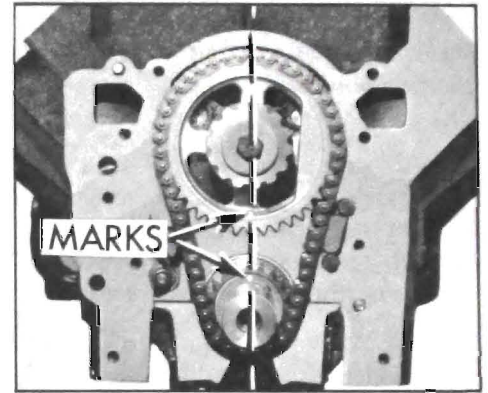

Figure 2-39—Timing Chain and Sprockets Properly Installed - V-6 Shown
bolt and washer in end of crankshaft. Turn crankshaft so sprockets are positioned as shown in Figure 2-39. Doing so will make it easier to reinstall parts. Remove harmonic balancer bolt and washer using a sharp rap on the wrench handle to start the bolt out without changing position of sprockets.
2. Turn camshaft so with sprocket temporarily installed, timing mark is straight down. See Figure 2-39. Remove sprocket.